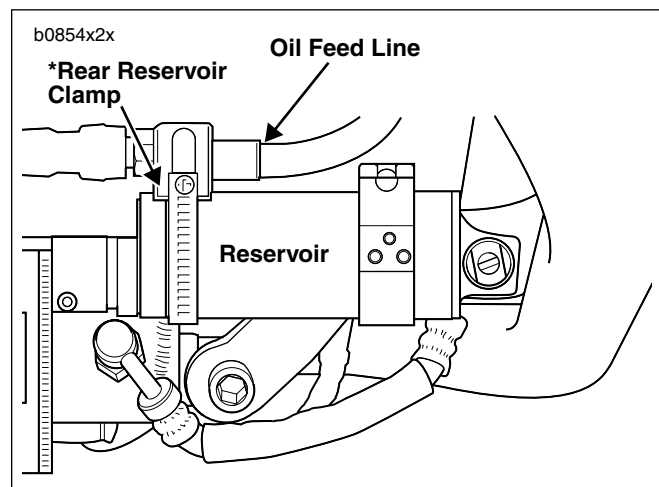

Figure 3. Rear Reservoir Clamp
9. See Figure 3. Loosely install **new** rear clamp around reservoir and oil feed line.